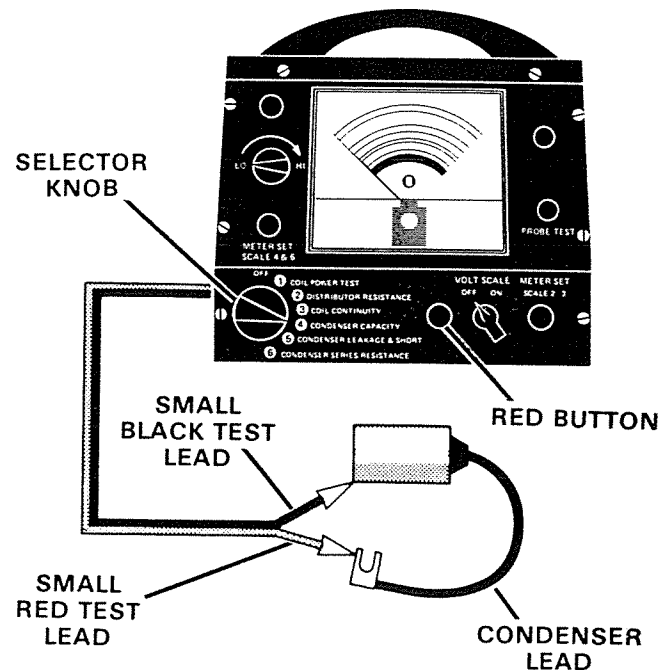

Figure 12. Testing Condenser Capacity.
2. Turn selector knob to "CONDENSER CAPACITY" position. Figure 12.
Leave test leads connected as shown. Figure 12.